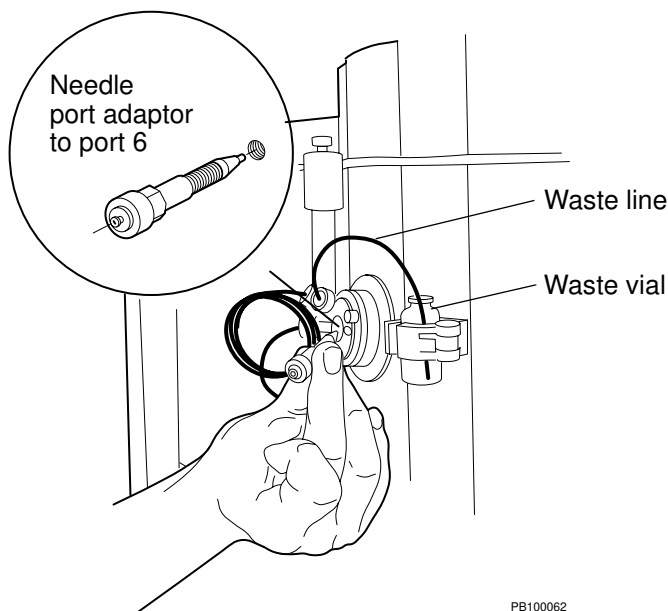

Figure 3-16 Inserting Needle Port Adaptor
3. Screw the needle port adaptor (from the startup kit) loosely into port 6 of the injection valve (Figure 3-16).